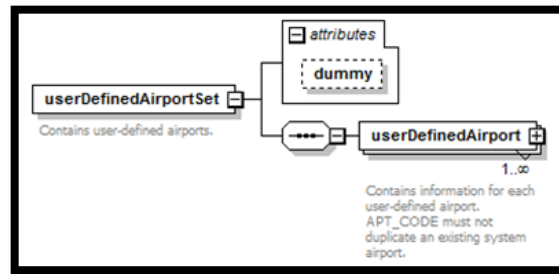

Figure 49. XML userDefinedAirportSet
1. AsifXml/study/userDefinedAirportSet/userDefinedAirport (Figure 49):